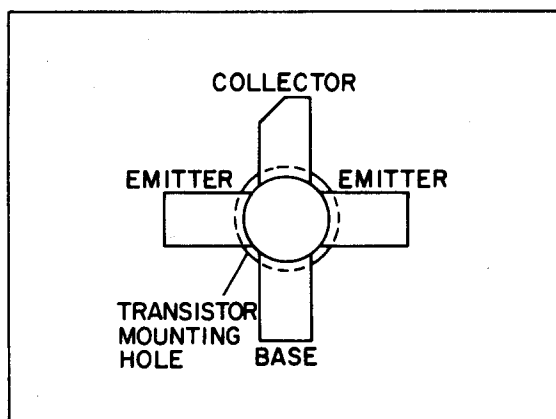
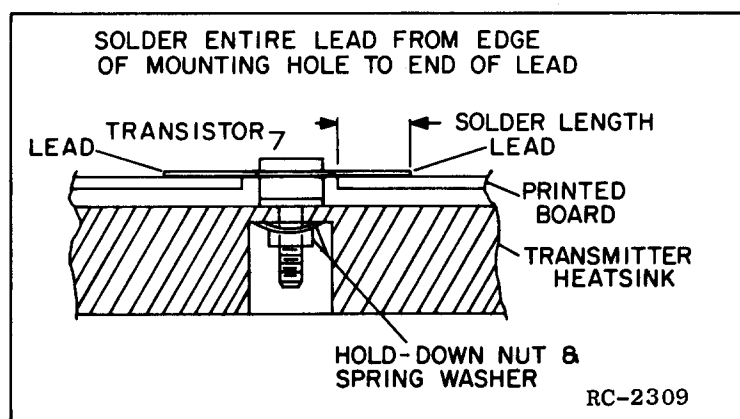

Figure 2 - Lead Identification
Figure 3 - Lead Forming
- (1) Trim the new transistor leads (if required) to the lead length of the removed transistor. Cut the collector lead of Q202 at a 45° angle for future identification. (see Figure 2). The letter "C" on the top of each transistor also indicates the collector.
- (2) Apply a coat of silicon grease around the transistor mounting surface, and place the transistor in the mounting hole. Align the leads as shown on the Outline Diagram. Then hold the body of the transistor and replace the hold-down nut and spring-washer (Q202) or the two retaining screws (Q203 and Q204) using moderate torque, 8 inch-pounds for Q202 or 6 inch-pounds for Q203 and Q204. A torque wrench must be used for this adjustment since transistor damage can result if too little or too much torque is used.
- (3) Make sure that the transistor leads are formed as shown in Figure 3 (Q202) so that the leads can be soldered to the printed circuit pattern, starting from the inner edge of the mounting hole.
- (4) Solder the leads to the printed circuit pattern. Start at the inner edge of mounting hole and solder the remaining length of transistor lead to the board. Use care not to use excessive heat that causes the printed wire board runs to lift up from the board. Check for shorts and solder bridges before applying power.